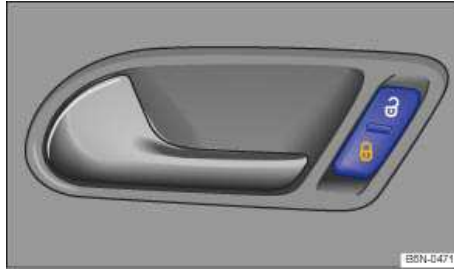

Fig. 28 On all 4 doors: Power locking button.
The vehicle will lock automatically when it reaches a speed of about 10 mph (15 km/h). When the vehicle is locked, the indicator light  lights up in the power locking button ⇒ fig. 28.
All doors automatically unlock when you switch off the ignition and open a door from inside the vehicle. On vehicles with automatic transmission, the doors will also unlock when the selector lever is in Park (**P**) or the ignition is switched off. Auto unlock works only if the vehicle has been automatically locked with the Auto lock feature. The indicator light  goes out in the power locking button when the doors unlock ⇒ fig. 28.
Press button ⇒ fig. 28:
- The yellow indicator light 🟡 in the power locking button lights up ⇒ fig. 28 to indicate that all doors and the rear hatch are locked.